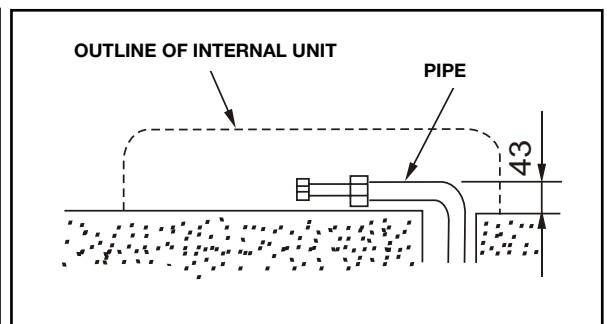

fig.5
3. Lay the pipe as shown in the figure. Bend the connection pipe, making sure that it is not more than 43 mm from the wall (fig. 5).